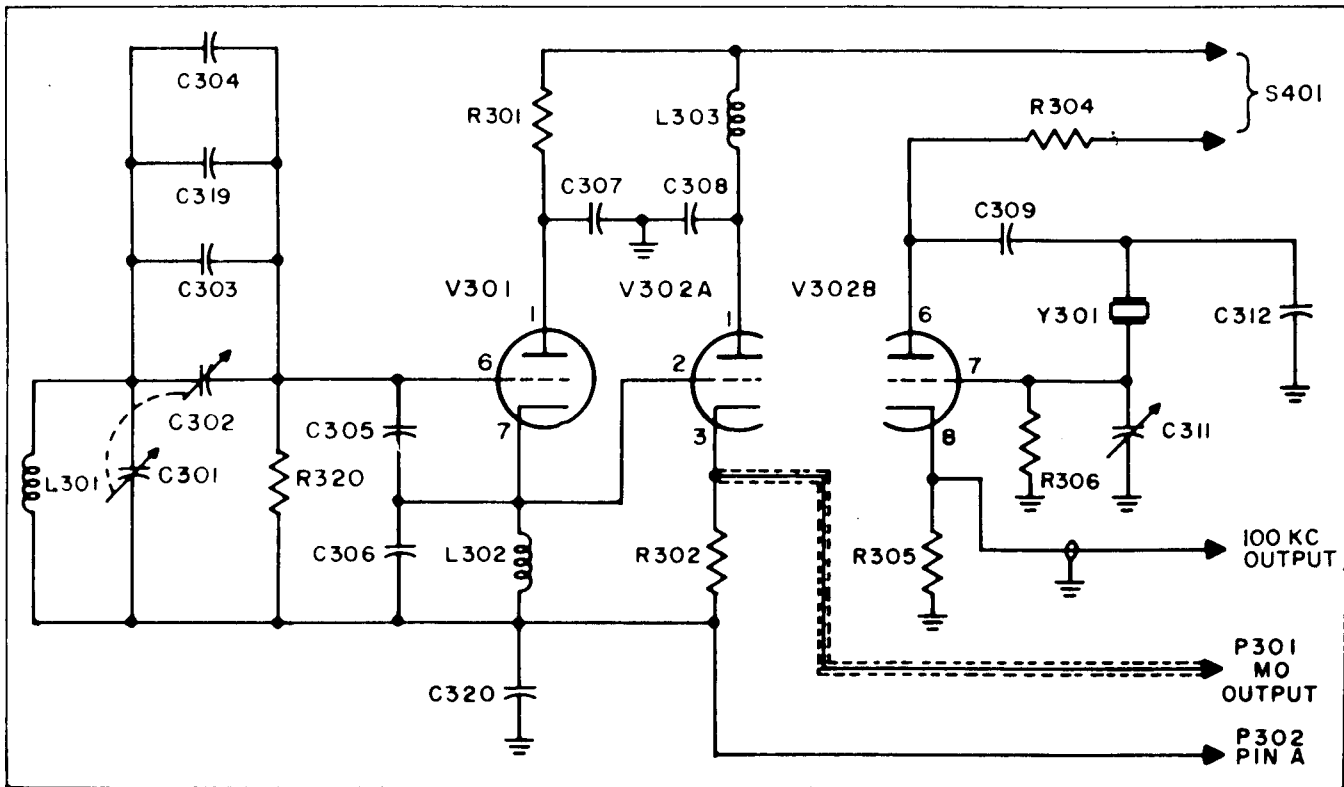

Figure 4-3. Master and Calibrator Oscillators, Simplified Schematic Diagram
(a) The master oscillator stage uses triode V301 in a Colpitts oscillator circuit. (See figure 4-3.) The tuned grid circuit consists of L301, tuning capacitors C301 and C302, and padders C303, C304 and C319. The tank circuit is effectively tapped by C305 and C306 which parallel L302. The load is in the cathode circuit and the plate is placed at rf ground by C307. The output of the oscillator tube is taken from the cathode and applied to the grid of cathode follower V302A.
(2) CATHODE FOLLOWER. - The cathode follower isolation stage V302A is provided at the output of the oscillator stage to reduce the effect of load variation on the oscillator frequency. (See figure 4-3.) This stage is located in the temperature-controlled oven for added stability and consists of V302A, plate decoupler L303 and plate bypass C308. The cathode output developed across R302 is connected to the MO output connector P301.
(3) 100-KC CALIBRATION OSCILLATOR.
(a) The second half of triode V302 is used for the 100-kc calibration oscillator. (See figure 4-3.) Crystal Y301 is placed in the temperature-controlled oven with V302B to insure stability. Plate voltage is applied to V302B by rotation of the OSCILLATOR switch S401 to CAL position. In all other positions of the switch, plate voltage is removed from V302B, thus disabling it.